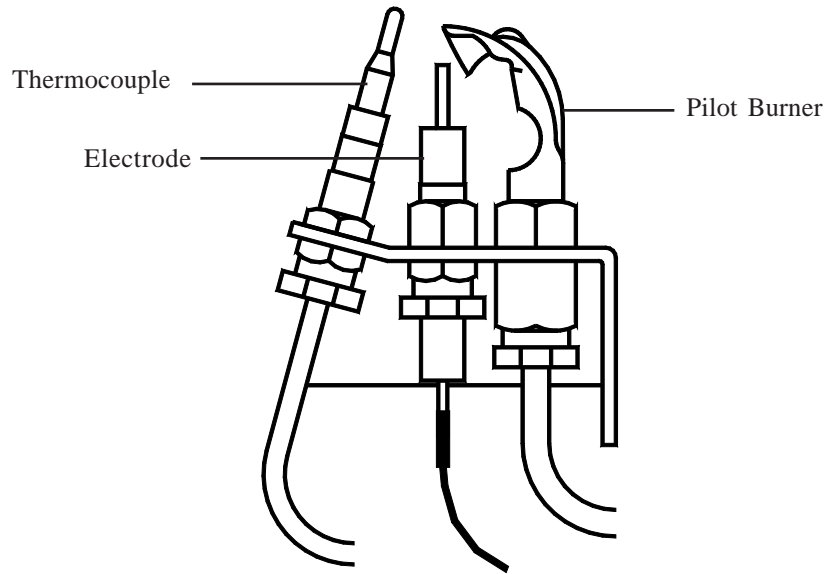

Fig. 3
- 6.3.6 Ensure that the pilot flame envelops the thermocouple tip, adjusting the Multifunctional Control Pilot Adjuster as required (refer Fig. 3).